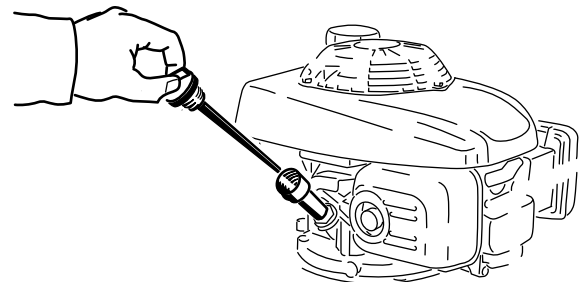

Figure 21
5. Remove the dipstick (Figure 21).